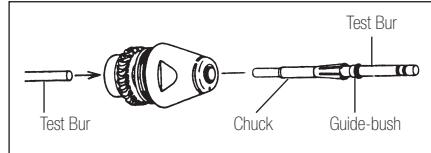

Fig.12
- 2) When the rotor nut is loose. Push out the chuck carefully with a dummy bur or the shank of bur from the back of the cartridge, the Guide-bush and the chuck will come out. (Fig.12)